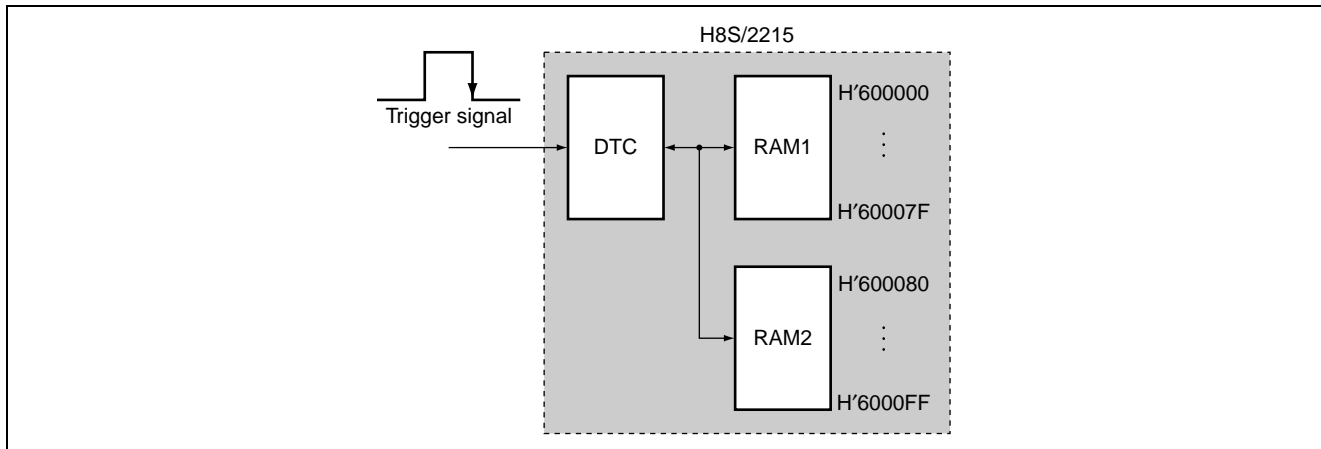

Figure 1 Block Diagram of Data Transfer Started up by Software
1. As shown in figure 1, this sample task starts up DTC at detection of a falling edge of a port to transfer one 128-byte block of data.